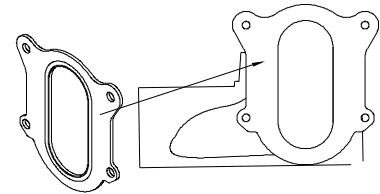

Fig. 2
2. Place faceplate gasket from trim kit on fitting. Align the gasket holes with the tapped holes in the fitting. See Fig. 2